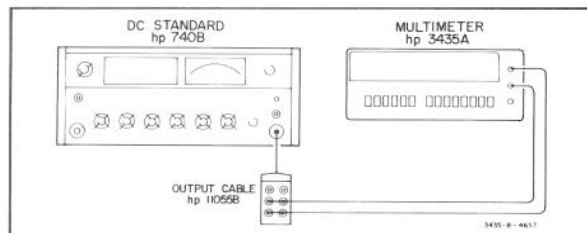

Figure 5-2. DC Voltmeter Accuracy Test.
- Connect the DC Standard to the V Ω and COM terminals as shown in Figure 5-2.